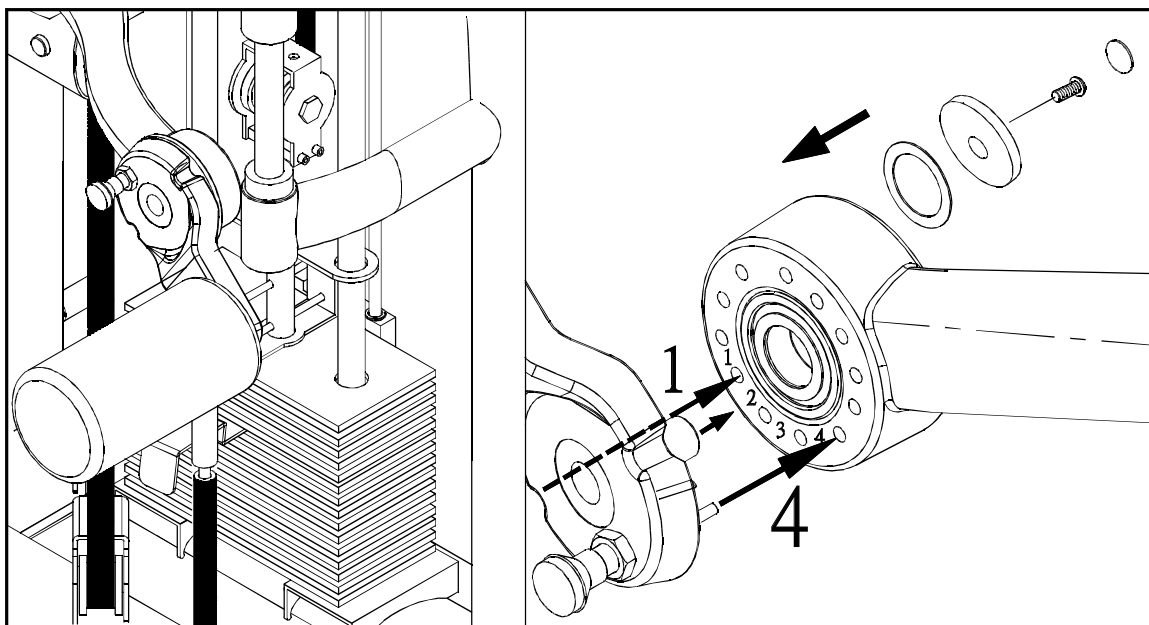

Fig.3
4. Fit the tube cushion onto the rotator as Fig.3 shown, then fix it with screws.